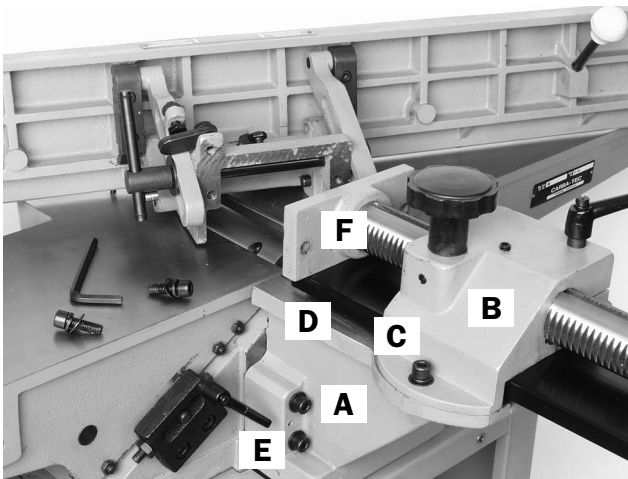
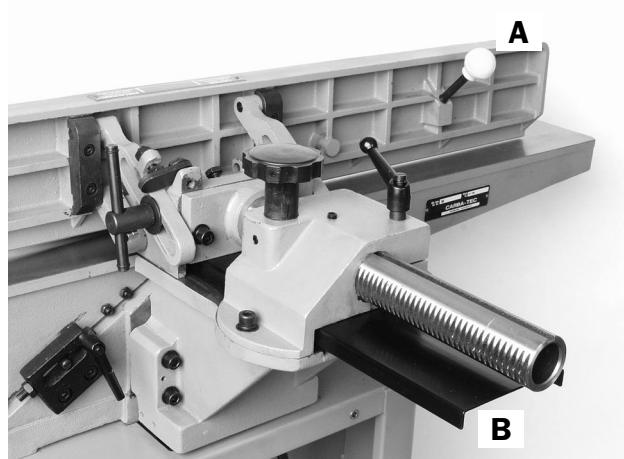

Fig. 2
Fig. 3
It is essential for the safe use of the machine that the pulley guard Fig. 2 (A) is in place before operating the jointer. Position the two alignment pins in the pulley guard, with the two holes in the side of the jointer, attach guard using the 4 x 55mm long hex head screws Fig. 2 (E). Attach carriage assembly Fig. 2 (B) to carriage mounting bracket Fig. 2 (D) using the 2 of 8 x 20mm long hex socket screws supplied Fig. 2 (C).
The fence is fitted to the carriage assembly via the two holes in the front plate Fig 2. (F). The short fence handle Fig. 3 (A) is fitted to the to the infeed side of the fence, and the longer handle to the outfeed side (not shown).
For your safety, as the fence is moved across, the rear cutting guard moves over the blades at the back to cover them Fig 3 (B), previous page.